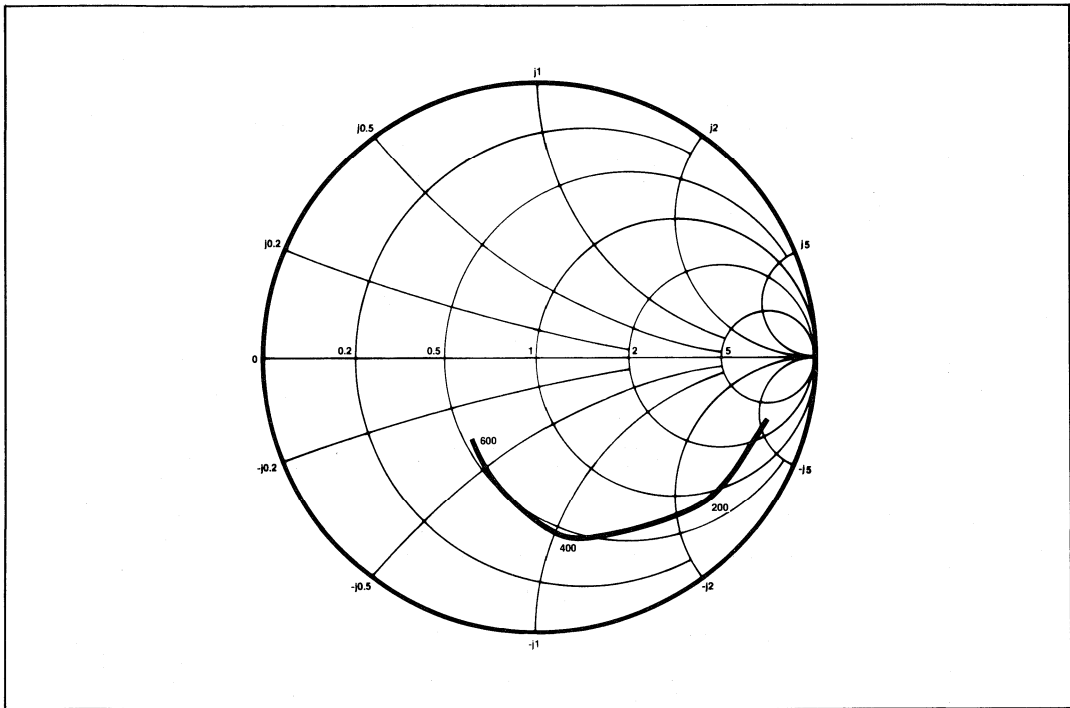

Fig.5 Typical input impedance. Test conditions: supply voltage 5.2V, ambient temperature 25° C, frequencies in MHz, impedances normalised to 50 ohms.
8. Input impedance is a function of frequency. See Fig. 5.